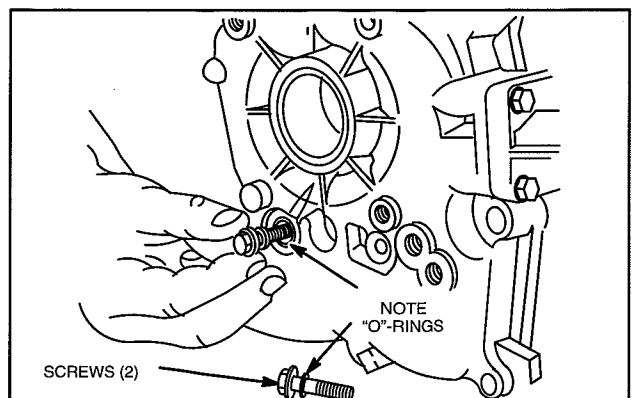

Fig. 23 – Remove Oil Pump
1. Remove two screws from crankcase cover or sump, Fig. 23.